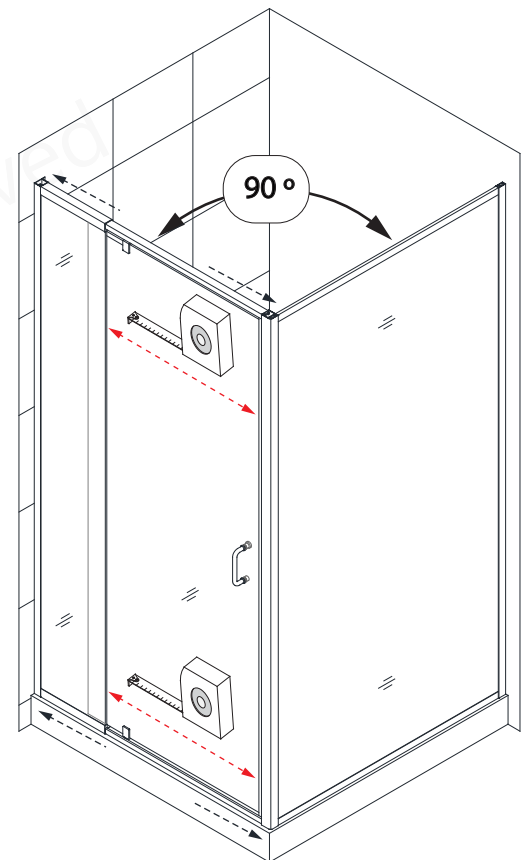

**Fig 7**
**7.** Extend the width of the **Door assembly (#02)** by sliding the top and bottom expanding rails toward the **Corner profile (#10)**. Insert the Door Glass side into the **Corner profile (#10)**. (**Fig7**)